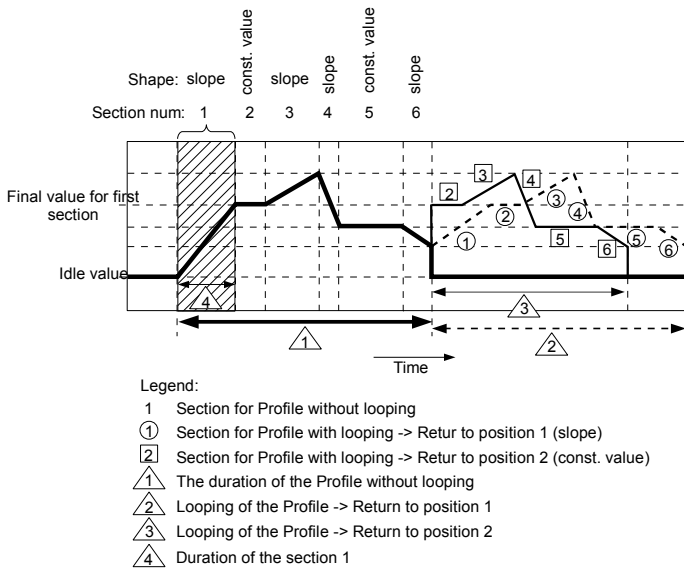

Fig. 7.86. Sample of Profile/timer with description of parameters
- if the section from which begins the next repeat Profile/timer is a **ramp**, then in the whole duration of this section is linear generating the output signal from the **final value** of the previous section to **final value** this section. This is shown in Fig. 7.86 (dashed line-run profile)
- if the section from which the next repeat of the Profile/timer begins is a constant value, then Profile signal quickly transient (0.1 seconds) from the **final value** of the previous section to a **constant value** in this section. This is shown in Fig. 7.86 (profile guided fine line).